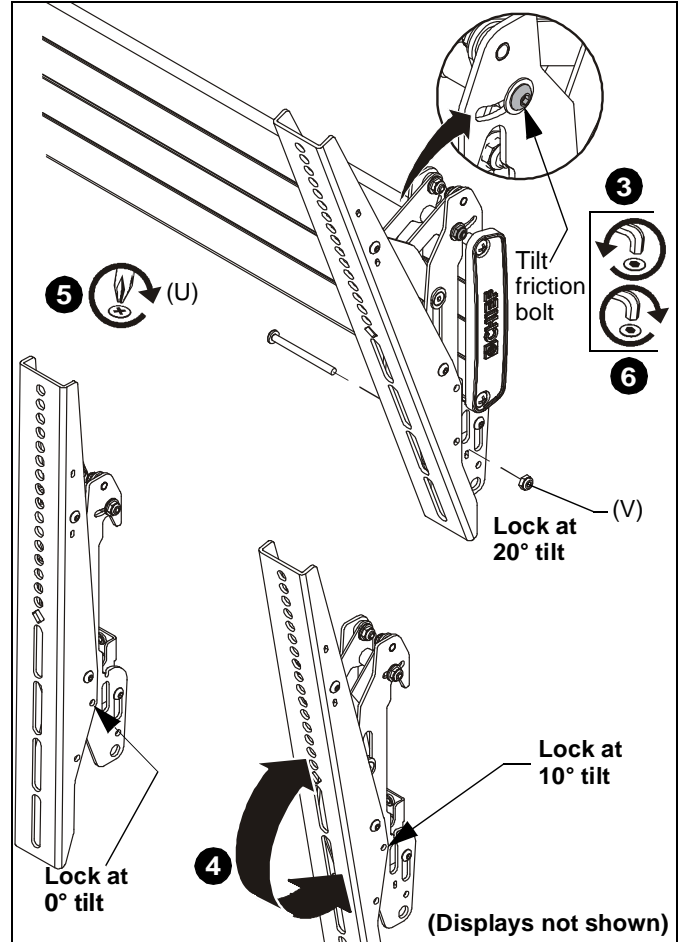

**Figure 15**
1. Turn the adjustment bolt in the direction necessary to level or adjust height. (See Figure 15)